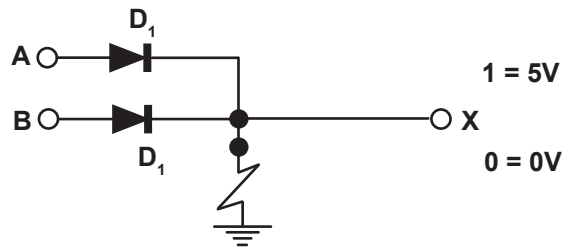

Fig. 20
- (c) A diode logic circuit for an OR-gate is shown in Fig. 20.
- (i) Explain how the logic gate in Fig. 20 operates.